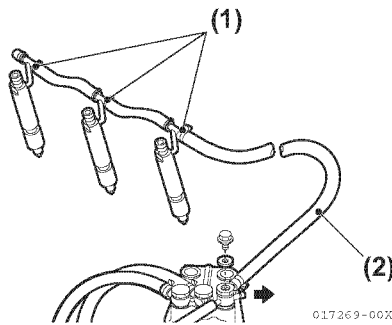
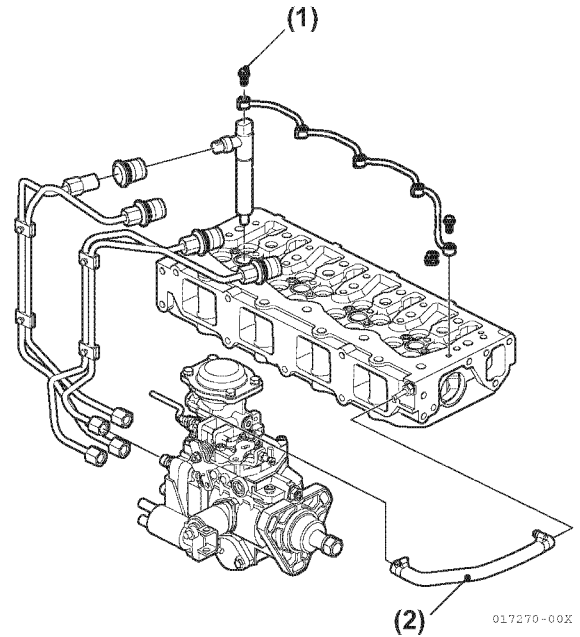

Figure 6-46
Figure 6-47
3. Loosen the clamps (**Figure 6-46, (1)**), (**Figure 6-47, (1)**) and remove fitting from fuel injection nozzle top. Repeat with all fuel injection nozzles. **NOTICE: NEVER disassemble fuel return line assembly. No individual parts are available and it must be replaced as a complete assembly.**
4. Disconnect return fuel hose (**Figure 6-46, (2)**).
5. Inspect seal (**Figure 6-47, (1)**) on each fitting. If any packing is damaged, replace it as new packing.